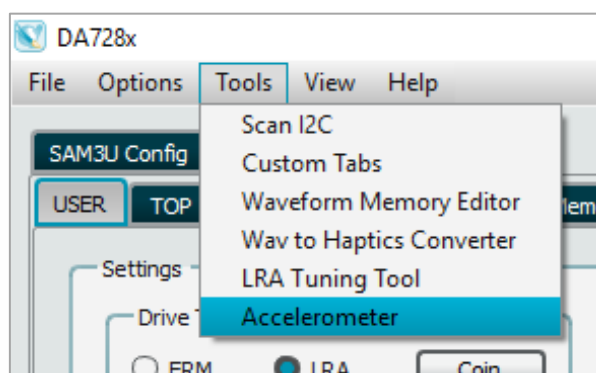

Figure 68. Digital accelerometer
4. In the DA728x GUI, select **Tools** > **Accelerometer** as shown in Figure 68.